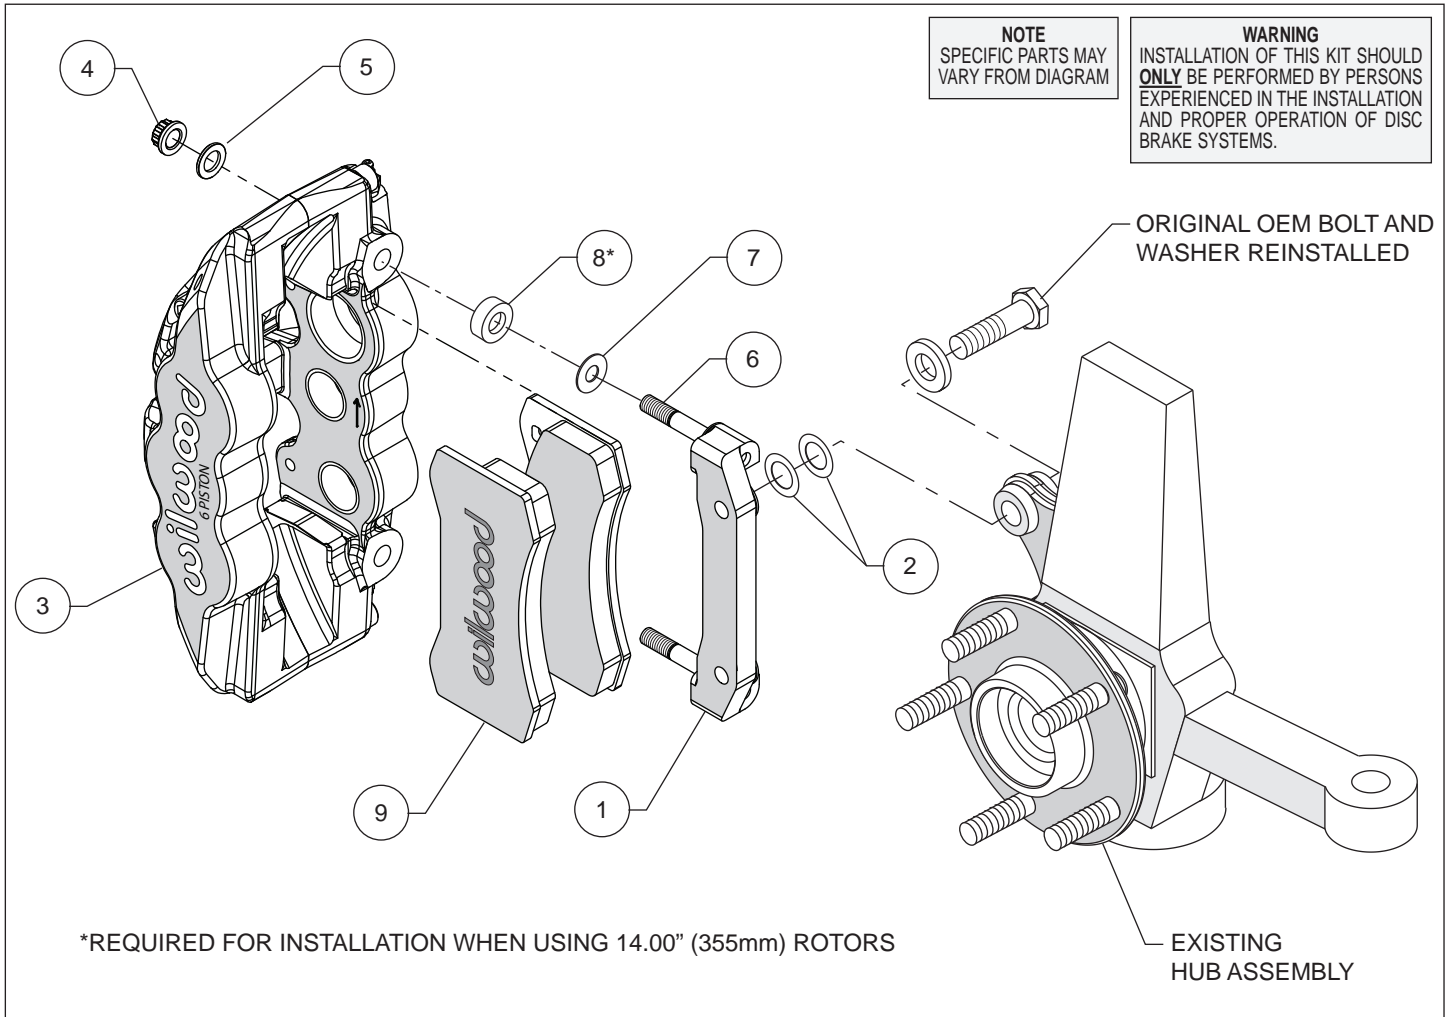

Figure 1. Typical Installation Configuration
Assembly Instructions (numbers in parenthesis refer to the parts list and Figure 1 on the preceding page):
- The caliper mount bracket (1) should initially be installed with clean, dry threads on the mounting bolts. Orient the bracket as shown in Figure 1, and install using saved OE bolts and washers. Initially place two .029" thick shims (2) on each bolt between the bracket and upright, Figure 1. Temporarily tighten the mounting bolts. **NOTE:** *The bracket must fit squarely against the mount bosses on the upright.* Inspect for interference from casting irregularities, machining ridges, burrs, etc. Later, after the caliper alignment has been checked, the mount bolts will be secured using red *Loctite*[®] 271.
- **NOTE:** *This kit contains distinct right and left hand calipers that must be mounted in a specific direction, as described below.* Lubricate the caliper mounting studs (6) with lightweight oil. For 13.38" diameter rotors, initially place one .016" thick shim (7) on each stud as shown in Figure 1 and Photo 1. For 13.98" rotors, place one .300" spacer (8) on each stud prior to installing the .016" thick shim (7). Mount the caliper (3) onto the bracket (1) using lock nuts (4) and washers (5), Figure 1. Ensure that the caliper is mounted so that the largest pistons are at the rotor exit end of the caliper, in relation to the direction of rotor rotation. Temporarily tighten the lock nuts and view the rotor through the top opening of the caliper. The rotor should be centered in the caliper, Photo 2. If not, adjust by adding or subtracting shims (2) between the bracket and the upright. Always use the same amount of shims on each of the two mounting bolts. Once the caliper alignment is correct, remove the bracket mounting bolts one at a time, apply red *Loctite*[®] 271 to the threads, and torque to 65 ft-lb.
- Remove the two pad retaining pins from the caliper (3) by carefully popping out the pin retaining clips and sliding out the pins. Insert the brake pads (9) into the caliper from the bottom, Figure 1 and Photo 3. With the friction material facing the rotor, secure the brake pads in place with the pad retaining pins and clips, Photo 4. Reinstall the caliper onto the caliper mounting bracket and temporarily tighten the lock nuts. Check that the top of the brake pad is flush with the outside diameter of the rotor, Photo 5. If not, adjust by adding or subtracting shims (7) between the caliper and the bracket. After the caliper pad height is set, torque the caliper lock nuts (7) to 47 ft-lb.